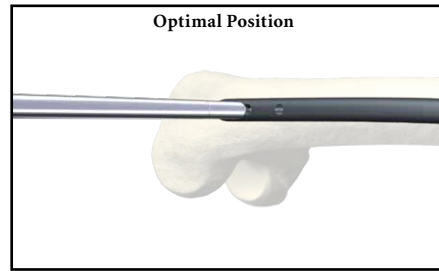

Fig. 32b
Once the C-Arm has been adjusted, so that nail and sleeve are shown parallel (Fig. 32a, b, c), the deviated image will show the sleeve either above or below the nail (Fig. 32a, c). If the sleeve and the nail are shown parallel and in the same axis (Fig. 32b), no deflection of the nail shaft has occurred, and no further adjustment of the Adjusting Device is needed.
Once the correct nail and sleeve adjustment has been obtained (Fig. 32b), a small skin incision is made at the tip of the Trocar and then continued down to the lateral cortex in direction of the Sleeve. Press the Sleeve Fixation Button (Fig. 34 ①) so that the Tissue Protection Sleeve can advance freely. The head of the Trocar will rise a few millimeters above the sleeve, when the assembly has been pushed to its proper position against the lateral cortex. Always verify that the Tissue Protection Sleeve is in good contact to the bone (Fig. 34a).